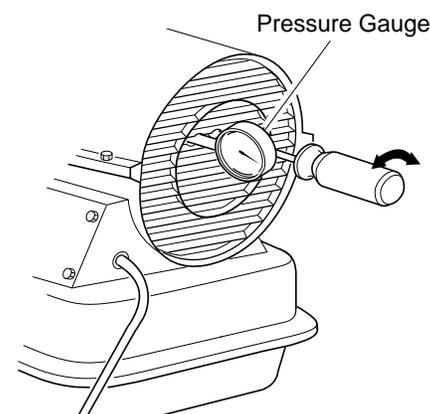
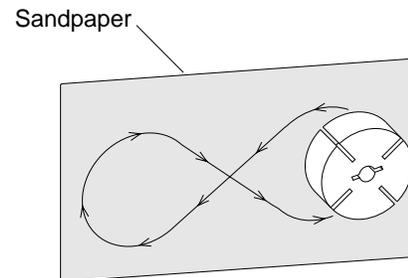

Figure 8 - Adjusting Pump Pressure
Figure 19 - Sanding Rotor
14. Place fine grade sandpaper (600 grit) on flat surface. Sand rotor lightly in "figure 8" motion four times (see Figure 19).